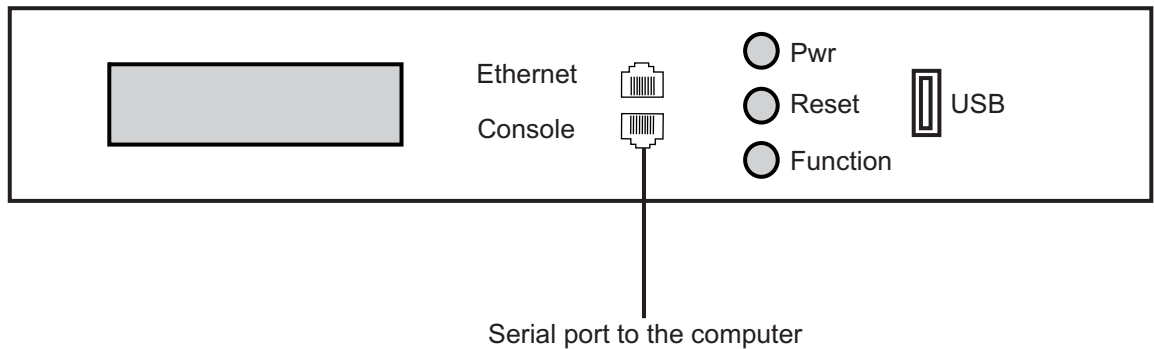

Figure 5.1 Computer to TMG5800 Serial Port Connection
1. Connect a CAT5 RJ-45 (male-male) cable (supplied with unit) between the com port of your computer and the serial port of the TMG5800 as shown in figure 5.1 on page 32. See figure 5.3 on page 33 for a RJ-45 pinout description.